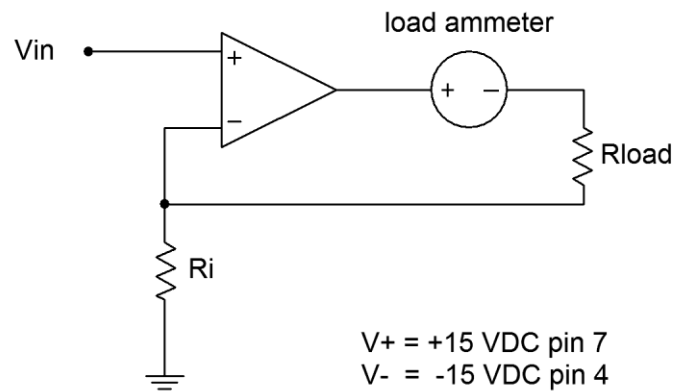

Figure 1
1. The transconductance of the voltage-to-current transducer can be determined from R_i . Based on the R_i values, calculate the expected I_{load} for the circuit of Figure 1, and record them in Table 1.
2. Assemble the circuit of Figure 1 using $R_i = 1k\ \Omega$ and $R_{load} = 100\ \Omega$.